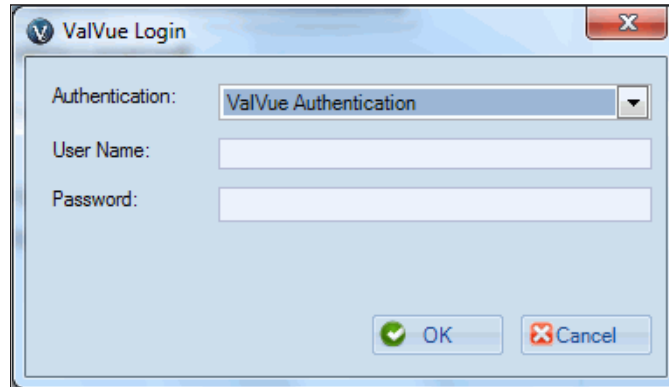

Figure 8 - ValVue Login
1. Select **Start > All Programs > Masoneilan > ValVue 4** and Figure 8 appears.